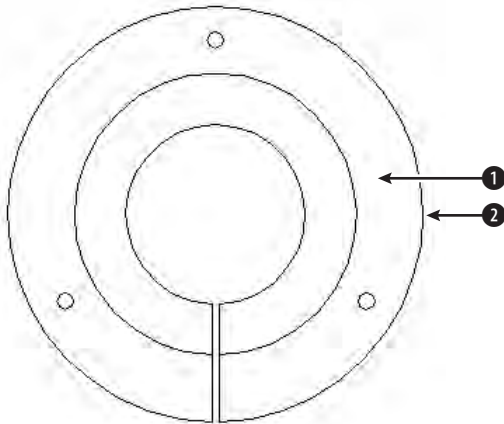

Figure 16-18: A bushing
2. Save the file as *ab16-06.dwg* in your AutoCAD Bible folder. This is a bushing, shown in Figure 16-18.
5. At the Select internal point: prompt, choose ① in Figure 16-18.